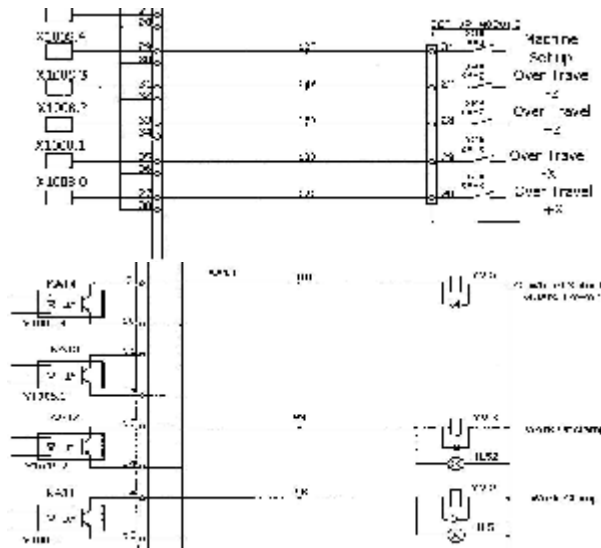

Figure 1
- 5) Key in switch's I/O address check schematics for address as example in Figure 1